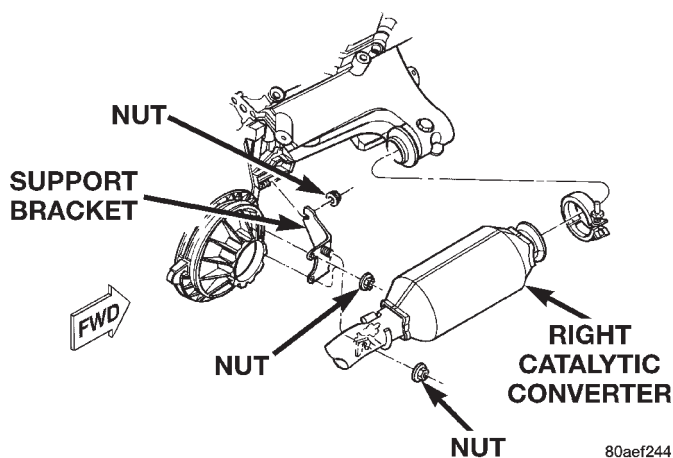

Fig. 6 Front Exhaust Pipe Support—Right Side
(8) Remove SRV (Single Runner Valve) vacuum reservoir and control valve assembly at right rear of engine. (3.2L Engine Only)
(9) Remove fastener attaching exhaust pipe front support to transaxle (Fig. 6).
(10) Disconnect downstream oxygen sensor connector and remove sensor from converter pipe.
(11) Loosen and remove V-Band clamp at exhaust manifold.
(7) Tighten V-Band clamp to 11 N·m (100 in. lbs.).
(8) Install downstream oxygen sensor and connect electrical connector.
(9) Install SRV (Single Runner Valve) vacuum reservoir and control valve assembly at right rear of engine. (3.2L Engine Only)
(10) Install air cleaner assembly with air inlet hose.
(11) Raise vehicle on hoist.
(12) Tighten extension pipe band clamp to 61 N·m (45 ft. lbs.).
(13) Install and/or tighten nut attaching extension pipe to transaxle bracket to 47 N·m (35 ft. lbs.).
(14) Install nut attaching exhaust pipe front support to bracket on transaxle housing/differential cover and tighten to 47 N·m (35 ft. lbs.) (Fig. 6).
(15) Install exhaust system. Refer to procedure outlined in this section.
(16) Lower vehicle.